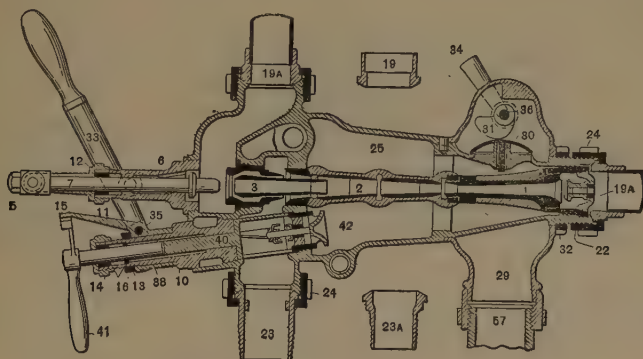

Fig. 100. The Sellers Injector.
A. As seen in Fig. 100, there is a main casing 25, with steam-supply pipe 19a, water-supply pipe 23, overflow-pipe 57, and feed-pipe. The steam nozzle 3, controlled by the spindle 7, delivers steam to the combining-tube 2 and the heated stream passes through the delivery tube 1, issuing axially. The water supply is controlled by the valve 17; the overflow by the valve 30; there is a check-valve 20 to prevent return of water from the boiler.